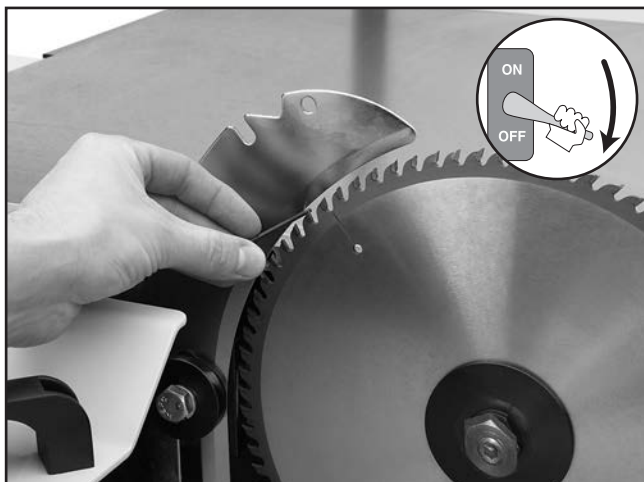

Figure 46. Adjusting the riving knife.
37. Position the riving knife about 3mm or 1/8" away from the nearest carbide tooth on the main blade. **Note:** For a quick gauge, use the 3mm hex wrench to find the correct spacing between the blade and the riving knife, as shown in **Figure 46**.